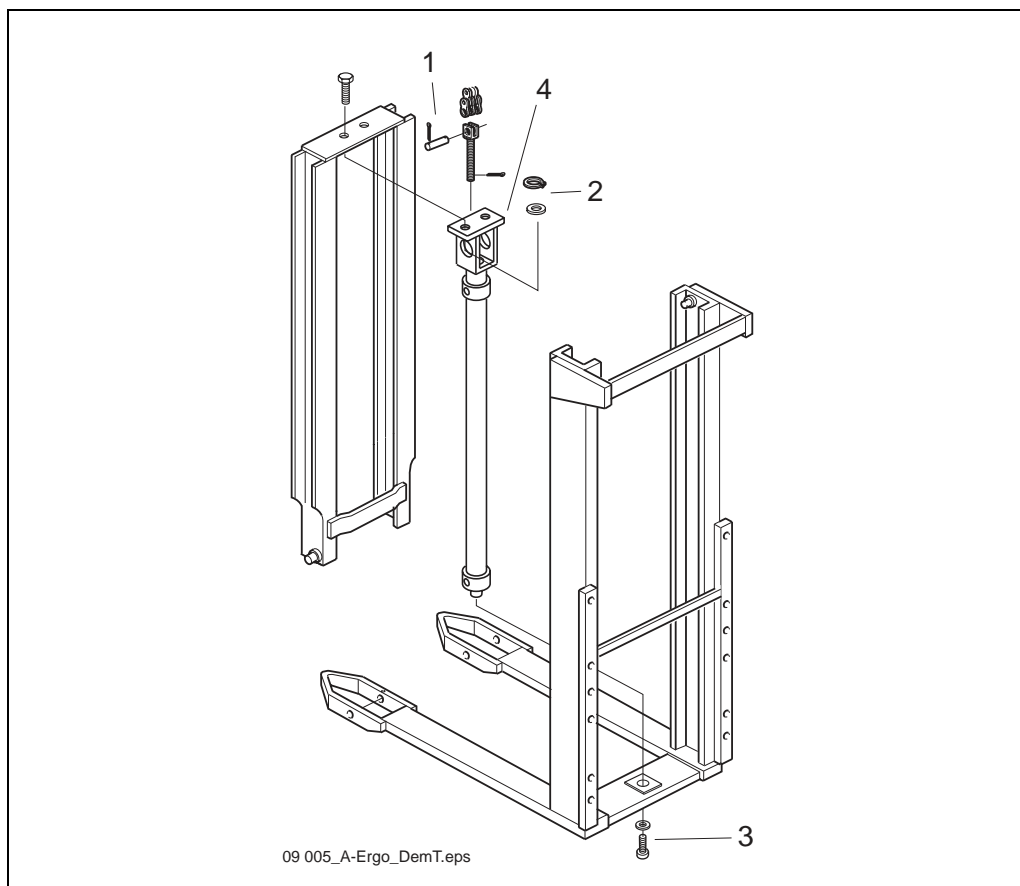

Figure 9.5 Lift cylinder T
1. Lower down the forks, e.g. on a pallet, so that the chain slackens. Remove the split pin bolt, pos. 1, see Figure 9.5, that sits in the top end of the cylinder.
5. Secure the cylinder so that it cannot drop out of the mast! Remove the circlip, pos. 2, and remove the lower retaining screw, pos. 3.
6. Carefully lower so that the piston rod comes out of the yoke, pos. 4. When the piston rod is completely pushed in, remove the oil pipe and return pipe, and tilt forward the cylinder and lift it out.